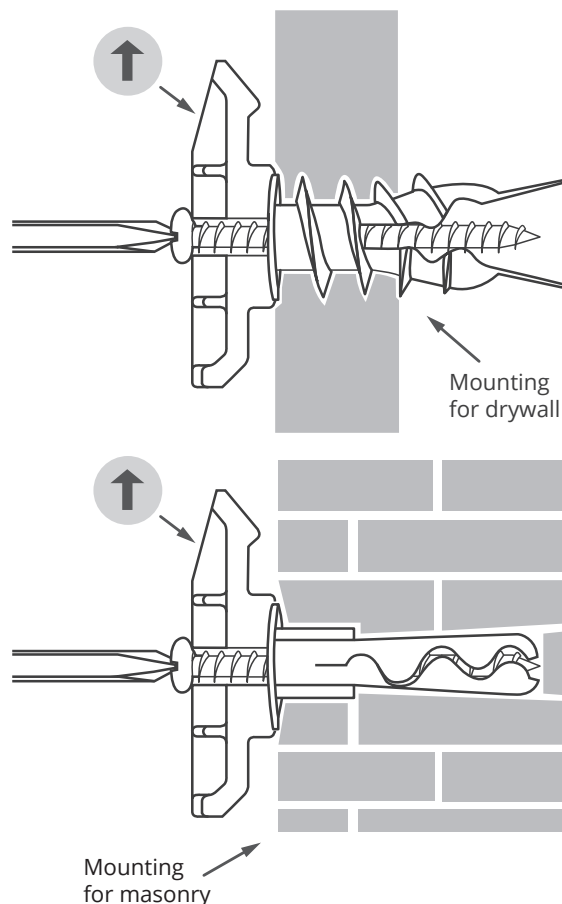

Fig. 3
- 3 Screw the two mounting clips (with arrow pointing upward) into the top two anchor locations and secure firmly to the wall anchors using the provided screws. (see Fig. 3). **DO NOT** overtighten. There should be a gap behind the mounting clip to hang the heater on.